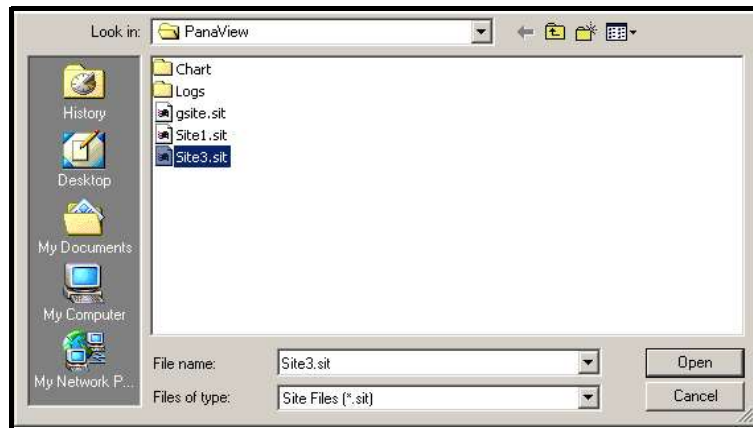

Figure C-15: Site File Selection
2. Then click on the *Save Site to Meter* button. A screen opens similar to Figure C-15 below.
3. The *Site File Selection* window (Figure C-15 on page C-10) opens. Highlight a site with the desired settings, and click [Open]. PanaView saves the site in the meter with the new name and the desired settings.
3. The *Site File Selection* window (shown in Figure C-15 on page C-10) opens. Enter the desired site name (now with a .prt suffix) and click [Save]. PanaView displays a text version of the site, as shown in Figure C-17 below.